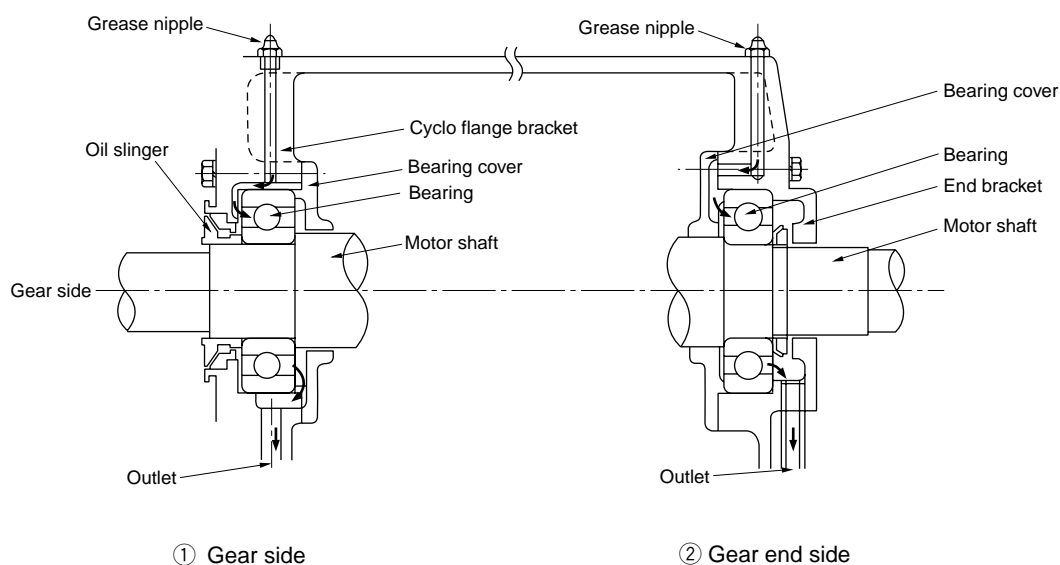

Fig. 19 Construction of Open Bearing in the Motor
(3) Grease Supply and Discharge (Refer to Fig.19 and Fig.39, 40 on page 32)
- ① Remove the discharge plug, discharge old grease and add new grease while unit is operating.